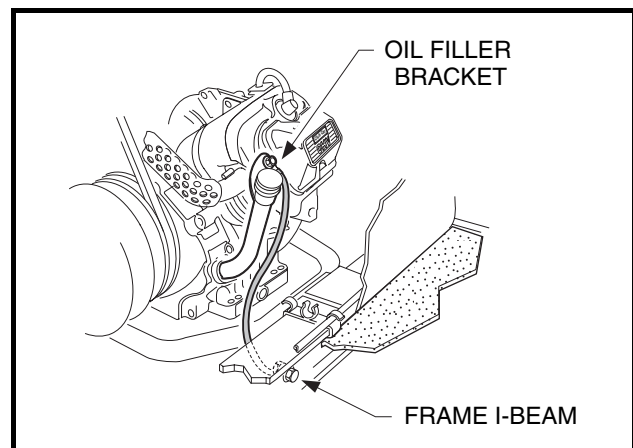

Figure 11-5 Engine Ground Cable Test
- 3.1. Place the red (+) probe of the multimeter on the ground cable terminal end located on the oil filler bracket on the engine (**Figure 11-5, Page 11-11**). Place the black (–) probe on the vehicle frame. The reading should be continuity. If the reading is incorrect, clean and tighten cable connections. If the connections are good and the reading is incorrect, repair or replace the cable.